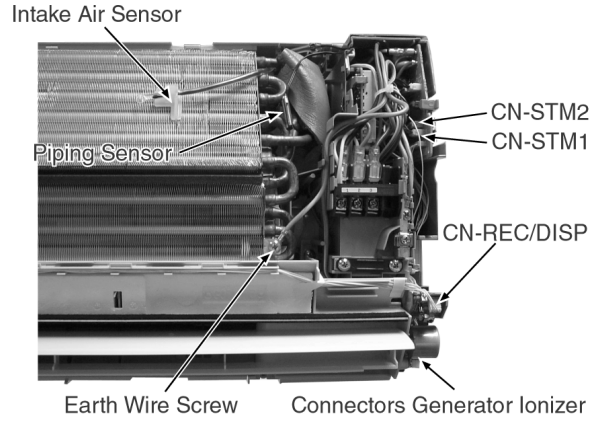

Fig. 5
- a. Release the Earth Wire screw. (Fig. 5)
- b. Release the Intake Air Sensor. (Fig. 5)
- c. Release the Piping Sensor. (Fig. 5)
- d. Release the CN-REC connectors. (Fig. 5)
- e. Release the CN-STM1. (Fig. 5)
- f. Release the CN-STM2. (Fig. 5)
- g. Release connectors generator Ionizer. (Fig. 5)